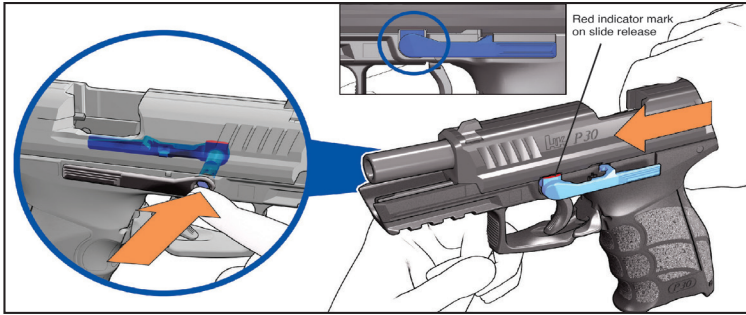

Figure 21 — Removing slide from frame by pushing it forward
5. Pull slide back and move it forward as far as the disassembly position (Figure 21).
6. Using your free hand, press the slide release axle in from right to left (Figure 21).